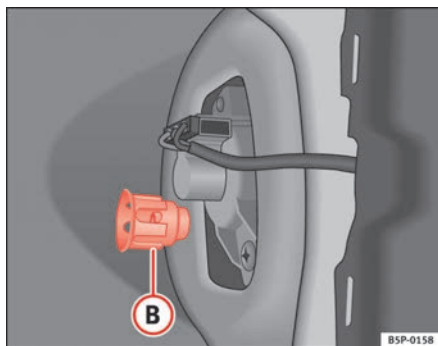

Fig. 185 Side lights and brake lights
- Unscrew the plastic fitting ⇒ fig. 185 **B** securing the rear light. Inserting a screwdriver under the plastic fitting may help to loosen it.